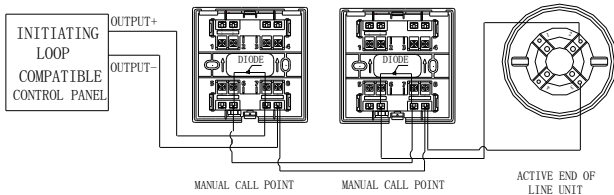

Fig. 5
- When Active End of Line Unit is not used as detector base, a cover should be added. The system composition is shown in Fig. 5.